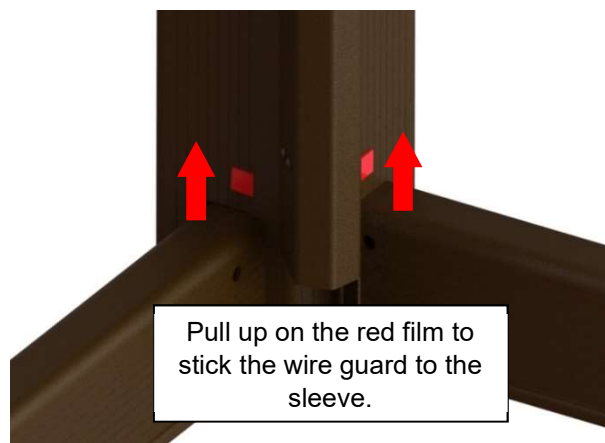

Figure 78
- 14) While still holding the wire guard on the post, gently start peeling away the red film one side at a time. This method will ensure proper alignment. Hold for **at least one minute** to ensure a proper bond. (Figure 78)